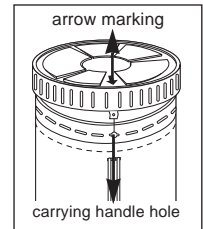

Fig.4
B) MOUNTING TOP PLATE: (Fig.4)